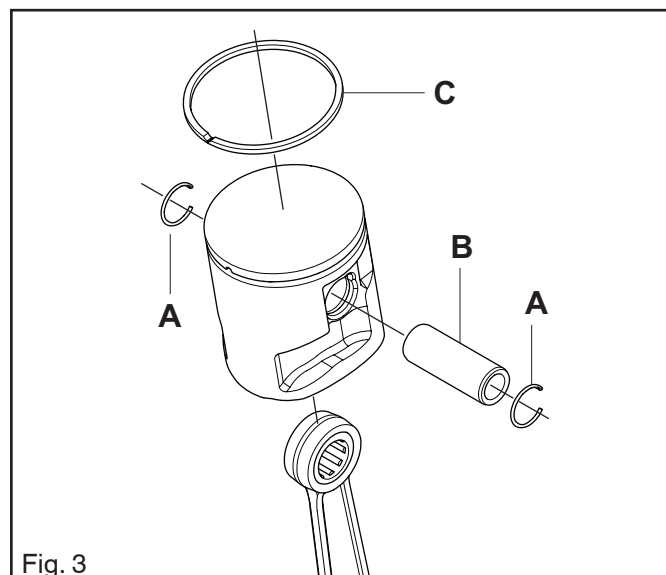

Fig. 3
8. Remove the circlips (A) and press out the gudgeon pin (B). Remove the piston. See Figure 3.
9. Remove the piston ring (C).